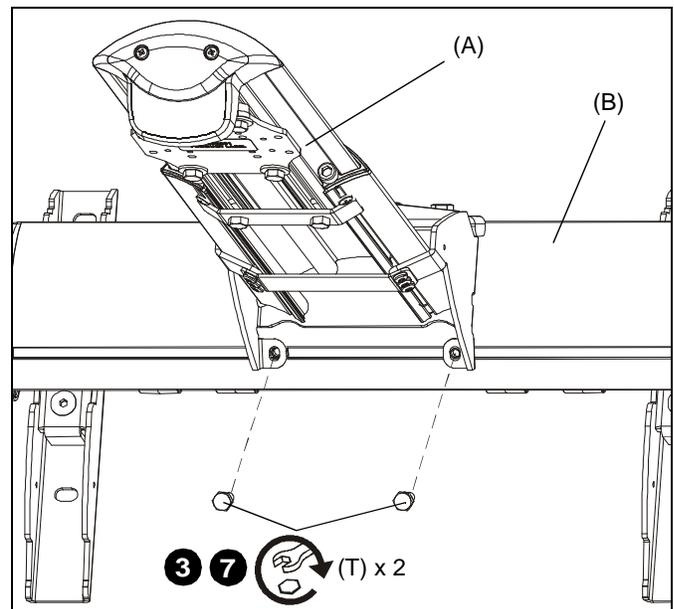

Figure 12
3. Install two 1/4-20 x 5/8" hex head bolts (T) through holes on short throw projector arm (A) and into sliding nuts on mounting bracket (B). DO NOT TIGHTEN SCREWS AT THIS POINT! (See Figure 12)
7. Tighten two bolts installed in Step 3. (See Figure 12)